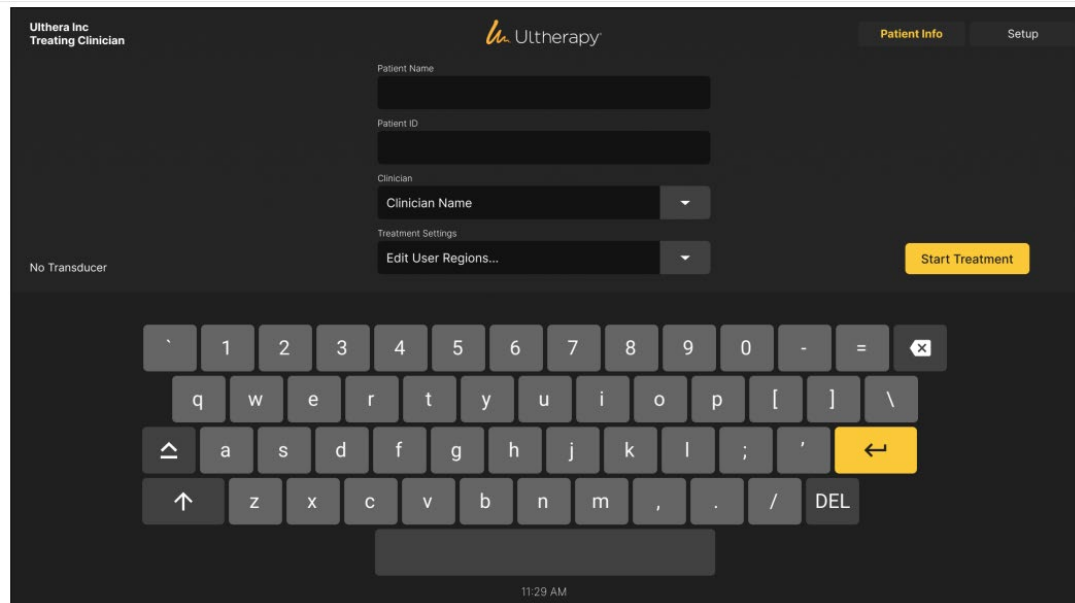

Figure 7.6 Patient Info Screen
1. The **Patient Info** screen shown in Figure 7.6 is the Patient Info Screen displayed when you turn on the system.